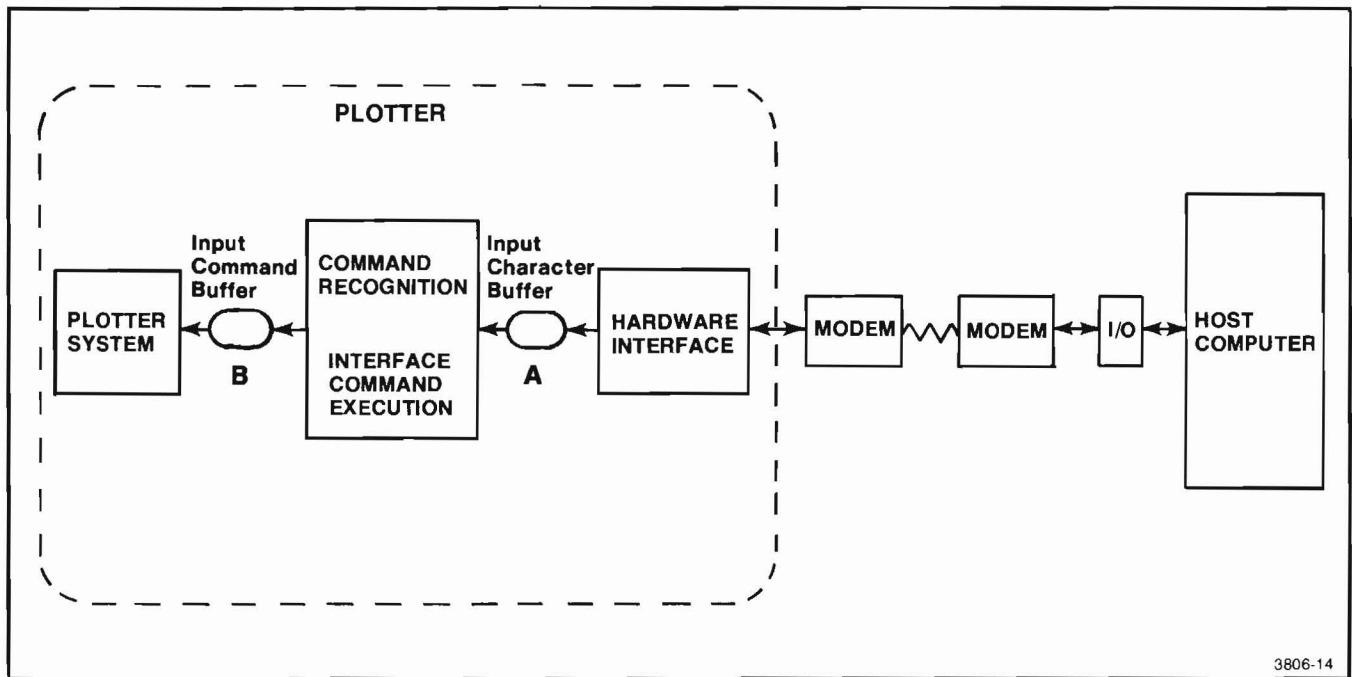

Figure 4-8. Input Buffering Model.
**Buffer Operation.** Figure 4-8 illustrates a simplified model of the Plotter input buffers. All commands are received as a series of ASCII characters and are entered into the Input Character Buffer (Buffer A) at the rate the characters are read from the Plotter's communication hardware. The stored characters are then retrieved from Buffer A and converted into a corresponding internal command form. Any Interface commands are executed at once (refer to the Serial Interface Commands section for a listing of these commands).